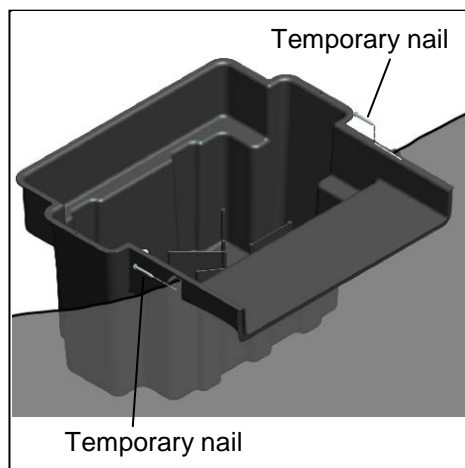

Fig. 7
- Insert 2 temporary nail into the flange top corner hole of tank, then holding the nails in place with hand, push the nail through the liner Fig. 7